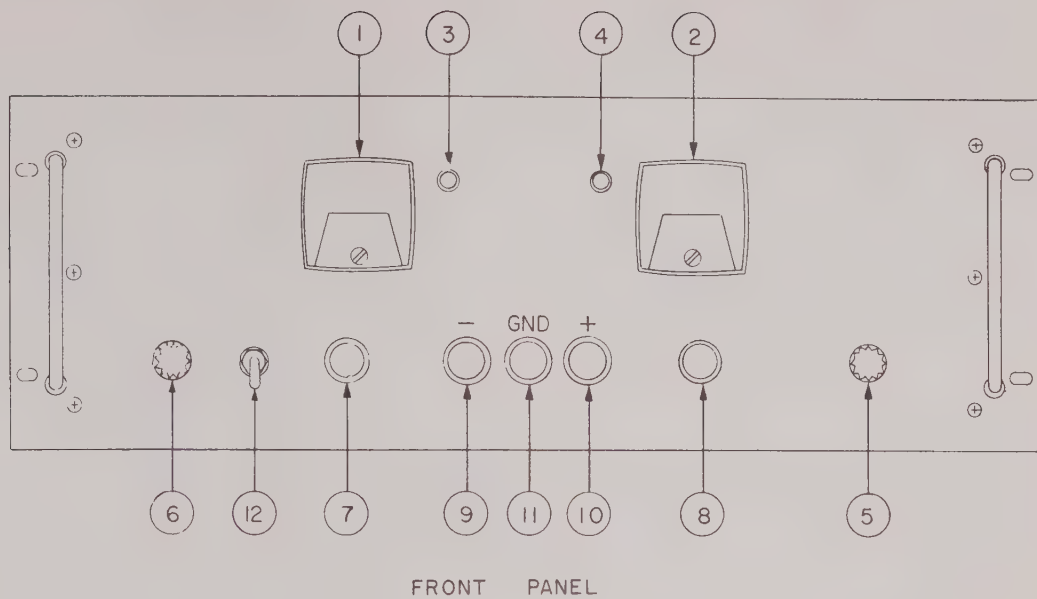
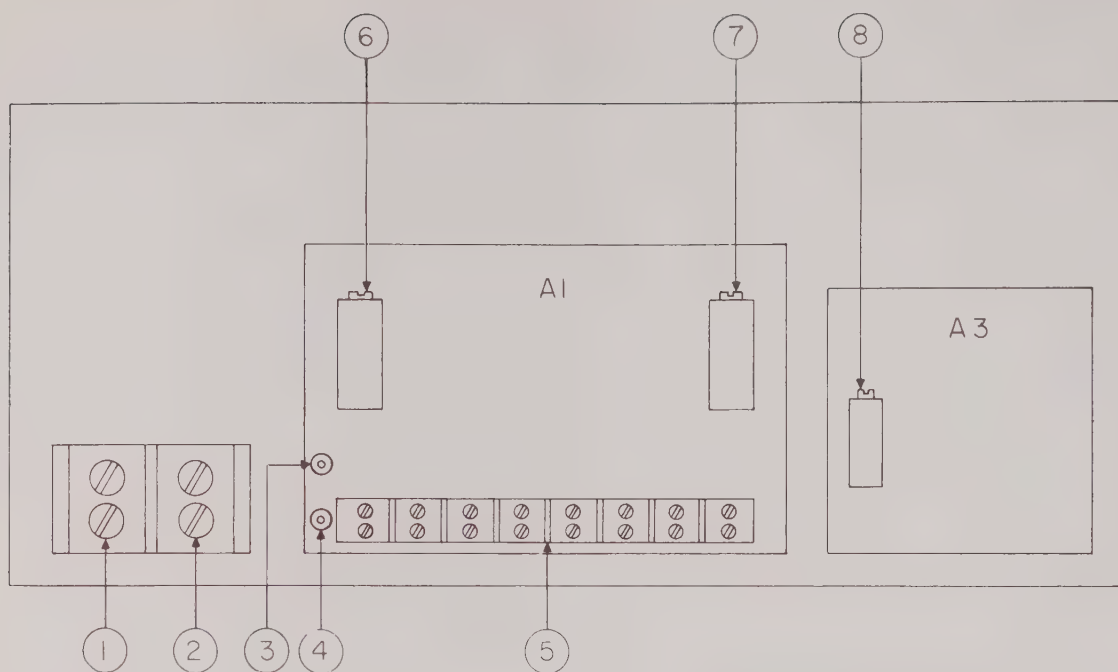

FIG. 2-2 TERMINATIONS, FRONT
FIG. 2-3 TERMINATIONS, REAR
- 2-4 For the location of all terminations and controls, refer to Figs 2-2 and 2-3 as well as Tables 2-1 and 2-2. The nomenclature used will be followed throughout this manual.
Note: Refer to Fig. 2-2 and Fig. 2-3 for location of front and rear terminations.
- e) Adjust R42 Calibrate Control, for precisely 5.00 volts, (On printed circuit amplifier board, Fig. 2-3). Close S-1. Adjust R_t for precise Zero on the voltmeter.
- c) Turn power supply "on". With S-1 in position as shown, adjust R40 (Refer to Fig. 2-3 for location) to the exact maximum output current (10A).